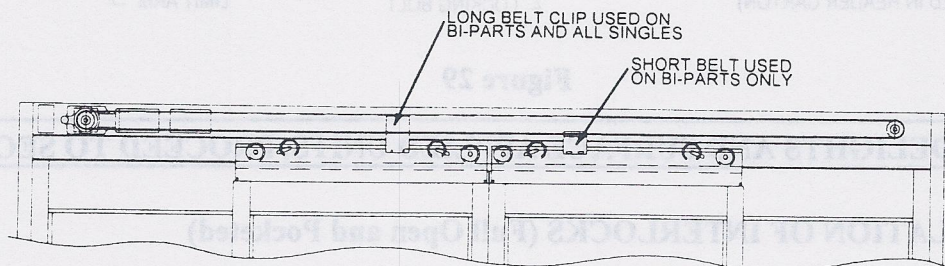

Figure 27
6. Attach belt clip(s) using the #12 x 3/4 inch self-drilling/self-tapping screws. Starter mounting holes have been pre-drilled in the door carrier. The belt clips should be installed toward the leading edge of the doors (See Figure 27).